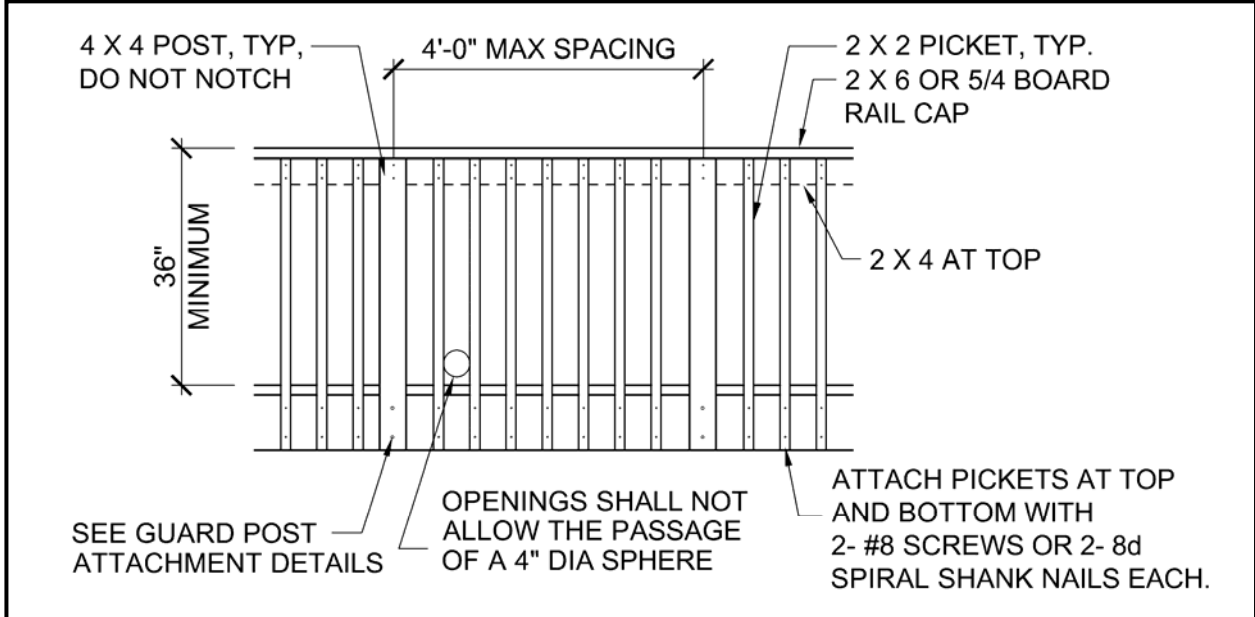
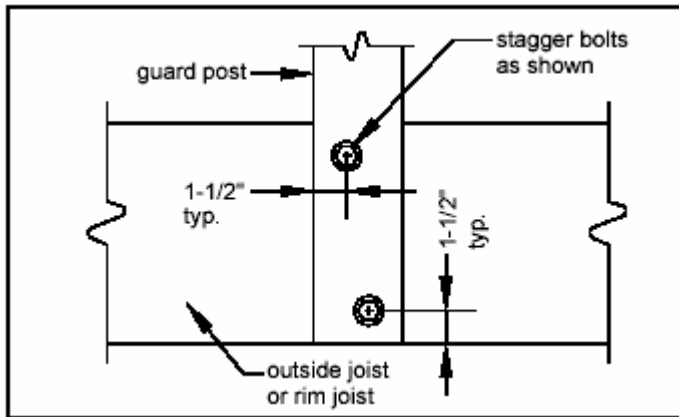

Figure 23 – Typical Guardrail Detail
Figure 24 - Guardrail Post Attachment Detail
**Guardrail Post Attachment:** Guardrail posts shall be spaced per Figure 23 and attached per Figures 24 through 27.